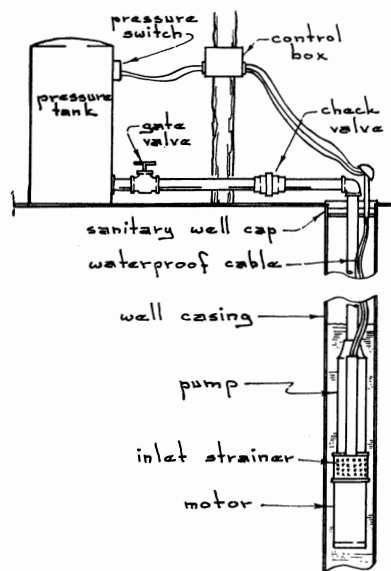

Fig. 14—Here is a typical installation of a deep well submersible pump.
**Submersible Pump: (Deep Well)** One of the recent developments in pumping water from deep wells is represented in the submersible pump, as shown in Figure 14. The entire assembly, including both the electric motor and the pump, is submerged under the water level in the well. Therefore the water is delivered by "pushing" it out of the well. The water is under pressure, and there is no suction condition. With this type of pumping assembly, the motor usually is at the bottom and the pump at the top of the assembly, the inlet strainer feeding the pump with water at the middle portion of the assembly. Thus, regardless of the "drawdown" condition of the well, the motor is never out of water.